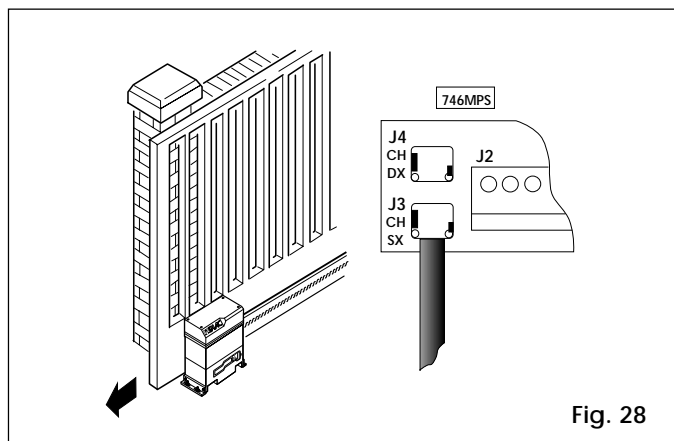

Fig. 28
- 1) Connect the limit switch connector to the 746MPS control unit in accordance with the direction of gate closure (paragraph 5.2.3. and Figs. 28/29).